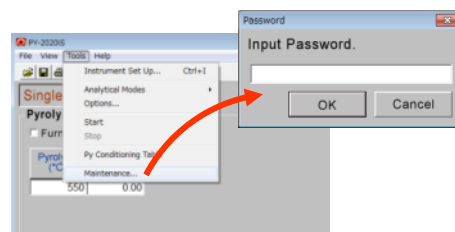

Fig. 1.1
1.1 The currently set calibration temperature of the pyrolyzer furnace is checked. Select **“Tools” – “Maintenance”** from the menu bar. A password prompt is displayed (Fig. 1.1). Enter **“2020”** as password and hit **[OK]** button.